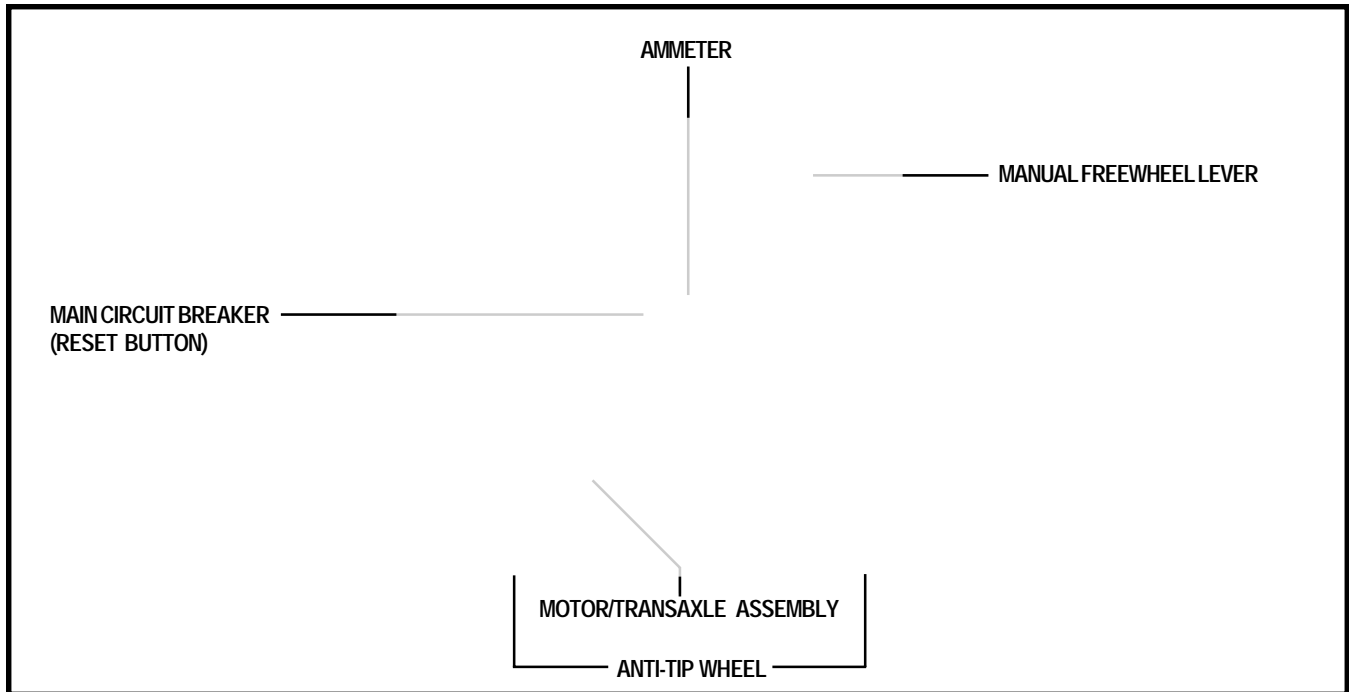

Figure 6. Rear Section
The charger power cord receptacle, batteries (not shown), the main circuit breaker (reset button), the ammeter, the manual freewheel lever, the anti-tip wheels, and the motor/transaxle assembly are located on the rear section of your scooter. See figure 6.
When the voltage in your scooter's batteries becomes low or the scooter is heavily strained because of excessive loads or steep inclines, the main circuit breaker may trip to protect the motor and electronics from damage. See figure 6.
- The manual freewheel lever is located on the end of the motor/transaxle assembly at the right rear of the Ultimate. See figure 6.